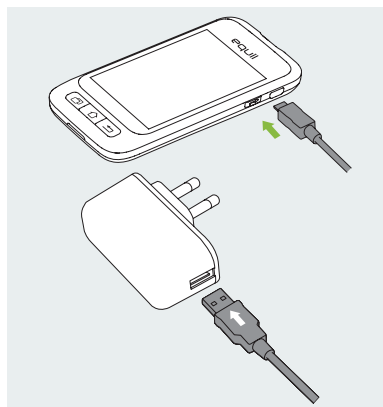

Figure 9
**2** Insert the small end of the cable into the PDA, and the large end of the cable into the PDA charger as shown in Figure 9.